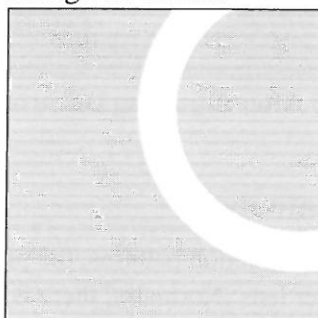

Fig. 5.33 Condition at the beginning of the IL FOCUS adjustment
8. Move the spectrum to the position where you obtain a shape as shown in Fig. 5.33.